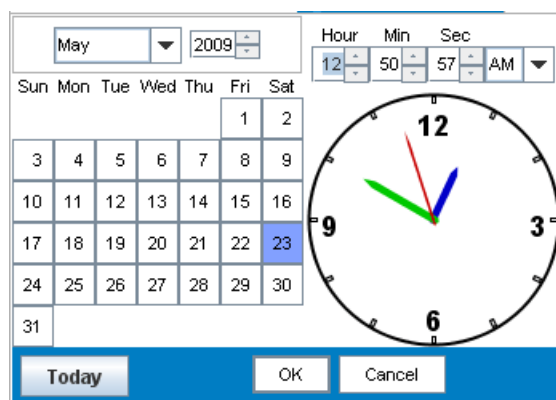

Figure 146. Grooming schedule
Note: In Figure 145, the times specified in the Grooming Schedule section (see Figure 146 for a sample) are from the NTP server. Your PC that is used for configuration may show a different time. This “PC time” should be disregarded; the start and stop times you enter will be referenced to the NTP server.
3. To set the stop time, uncheck **Never or Stop Time**. The grooming schedule of Figure 146 appears. If you don't want to stop grooming, click **OK**. To set a stop time, set the time and date for grooming to stop and click **OK**.